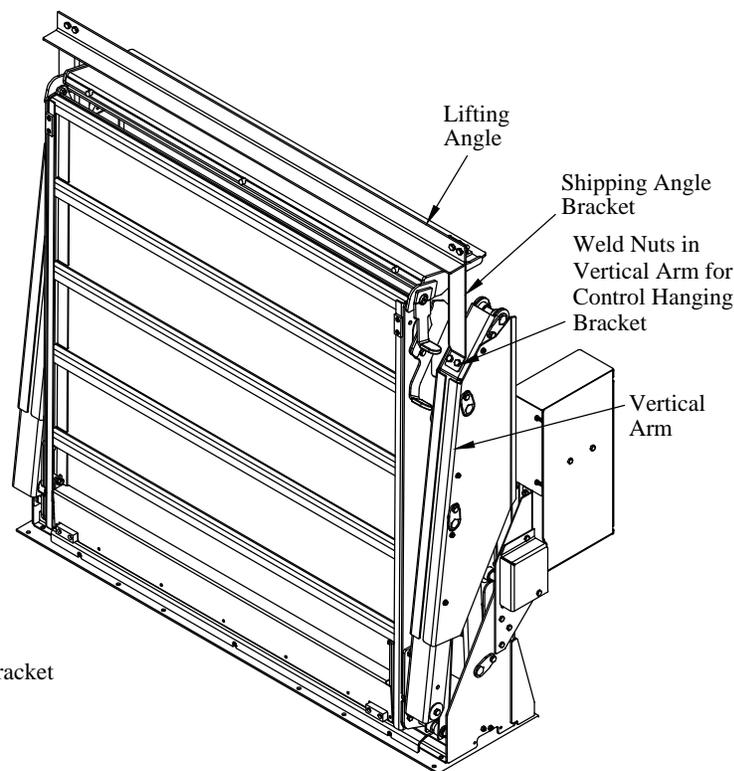

Figure 17: Lifting angle and vertical arm.
5. **Unbolt** and **Remove** the lifting angle and brackets (Figure 17). There are weld nuts inside the vertical arm.
11. **Install** second control hanging bracket with supplied 3/8" bolts on the passenger side vertical arm where the lifting angle was removed (Figure 17).